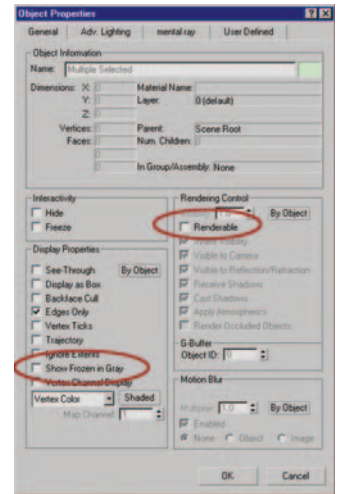

Figure 7.15 Object Properties dialog box with selections unchecked.
10. First, select all of the planes and right-click on them to bring up a Quad menu. From the Quad menu, click the Object Properties text to bring up the Object Properties dialog box. Uncheck Show Frozen in Gray, and also uncheck Renderable. Figure 7.15 shows the Object Properties dialog box with the desired settings.